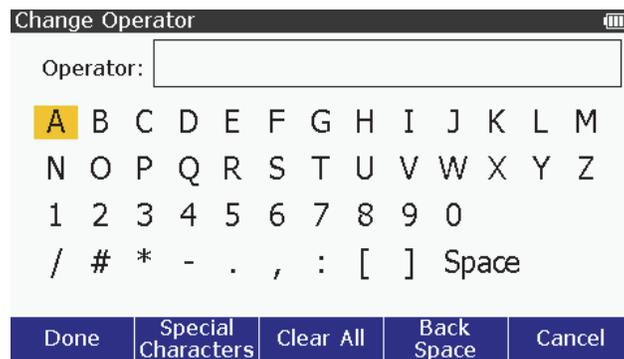

Figure 52. Change Operator ID Screen
4. Push the **Change Operator** softkey to open the Change Operator screen shown in Figure 52.